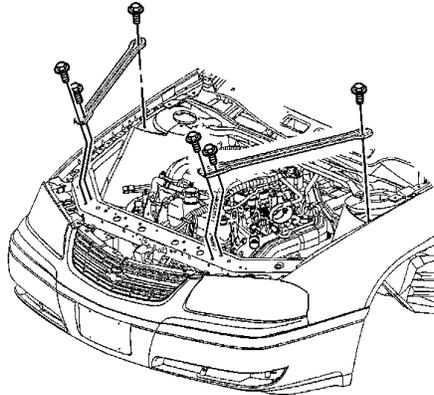

Fig. 1 Front fender upper diagonal brace removal
4. Remove righthand front fender upper diagonal brace, **Fig. 1**.
7. Align righthand front fender upper diagonal brace to radiator support and inner fender, **Fig. 1**.